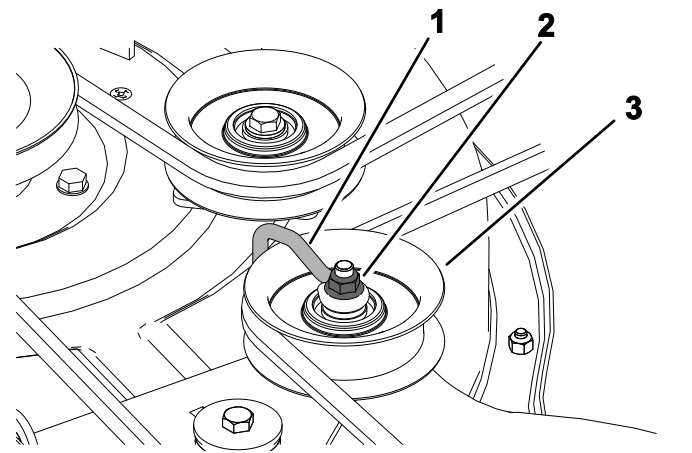

Figure 50
2. Screw (3)
5. Loosen the nut securing the wire form to the idler pulley (Figure 50).
Note: Position the wire form against the idler arm as shown in Figure 50.